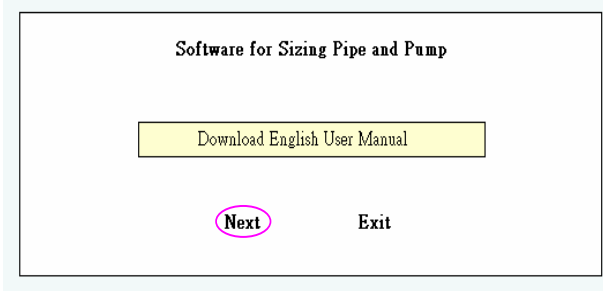

fig.1
- The first screen is **fig.1**. Click 「Download English User Manual」 if necessary.